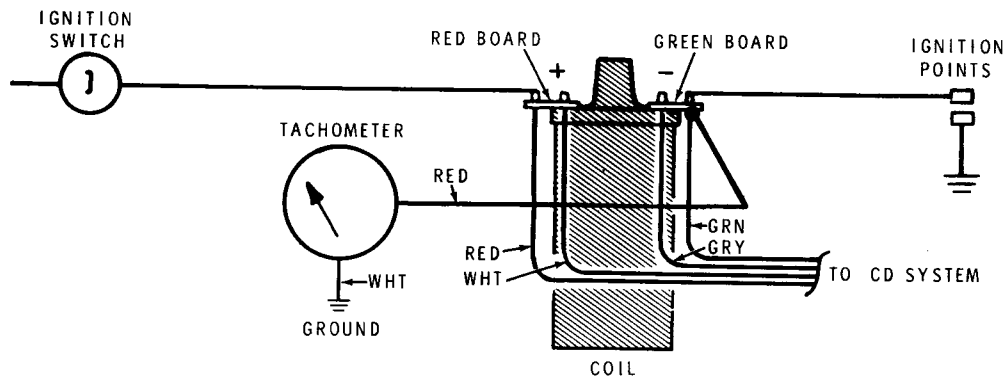

Figure 10
1. Connect the red tachometer lead to the green terminal board (green wire connecting point) on the negative (-) terminal of the ignition coil. See Figure 10.
2. And connect the tachometer white lead to ground. See Figure 10.